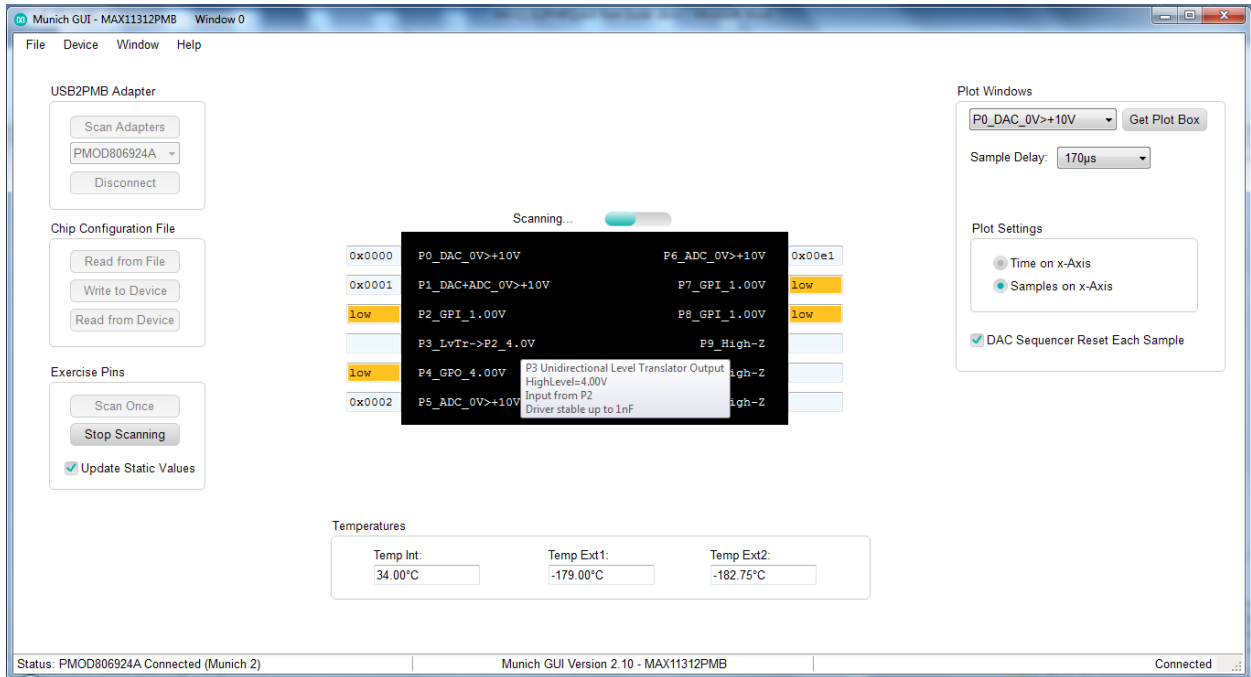
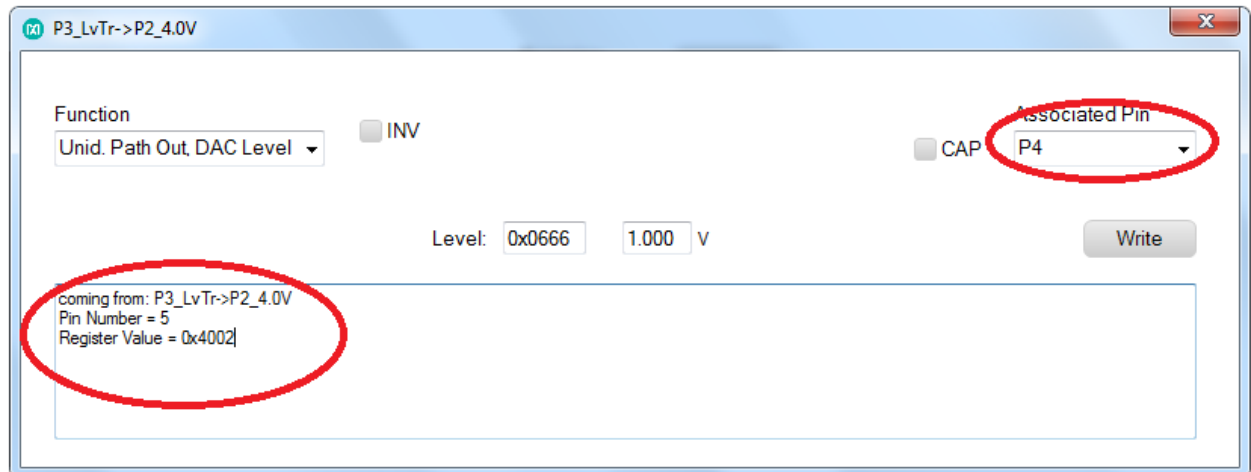

Figure 32. Click on Output of level translator.
Figure 33. Pin description of P3.
3. Click **P3_LvTr->P4_4.0V** as shown in **Figure 32** below, a separate window of pin description for Pin3 pops up as shown in **Figure 33**, under the associated pin tap, choose P4 (this is due to the limitation of GUI). The real pin number is listed on the pin description.